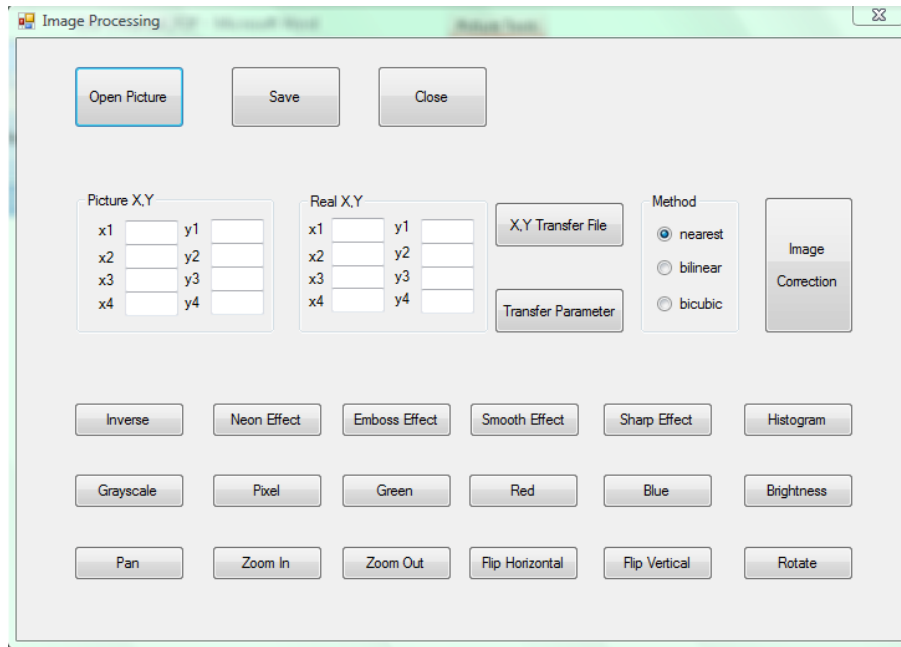

Fig. 3 Main interface of the IC tool
1) Main Interface: From the main interface of the program (Fig. 3), users can load the original distorted image, input parameters required for image correction, execute the program, and select any image transformation options.